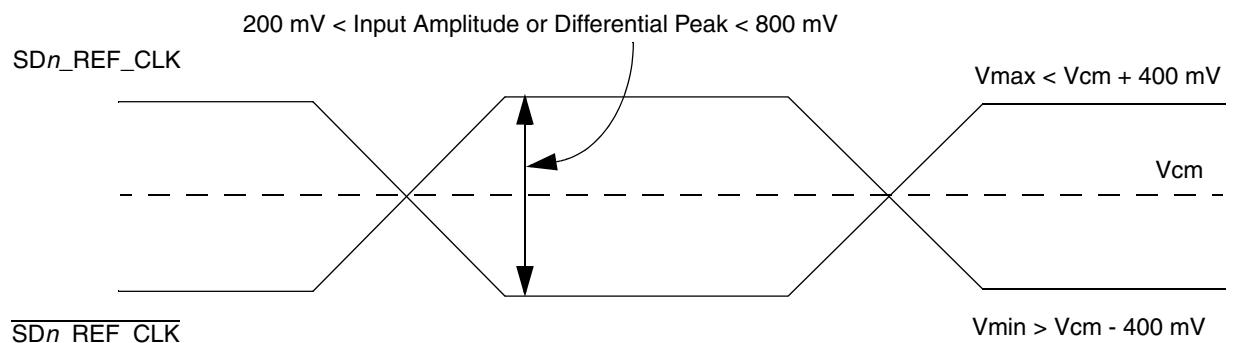

Figure 47. Differential Reference Clock Input DC Requirements (External AC-Coupled)
- For **external AC-coupled** connection, there is no common mode voltage requirement for the clock driver. Since the external AC-coupling capacitor blocks the DC level, the clock driver and the SerDes reference clock receiver operate in different command mode voltages. The SerDes reference clock receiver in this connection scheme has its common mode voltage set to SGND_SRDS_n. Each signal wire of the differential inputs is allowed to swing below and above the command mode voltage (SGND_SRDS_n). Figure 47 shows the SerDes reference clock input requirement for AC-coupled connection scheme.